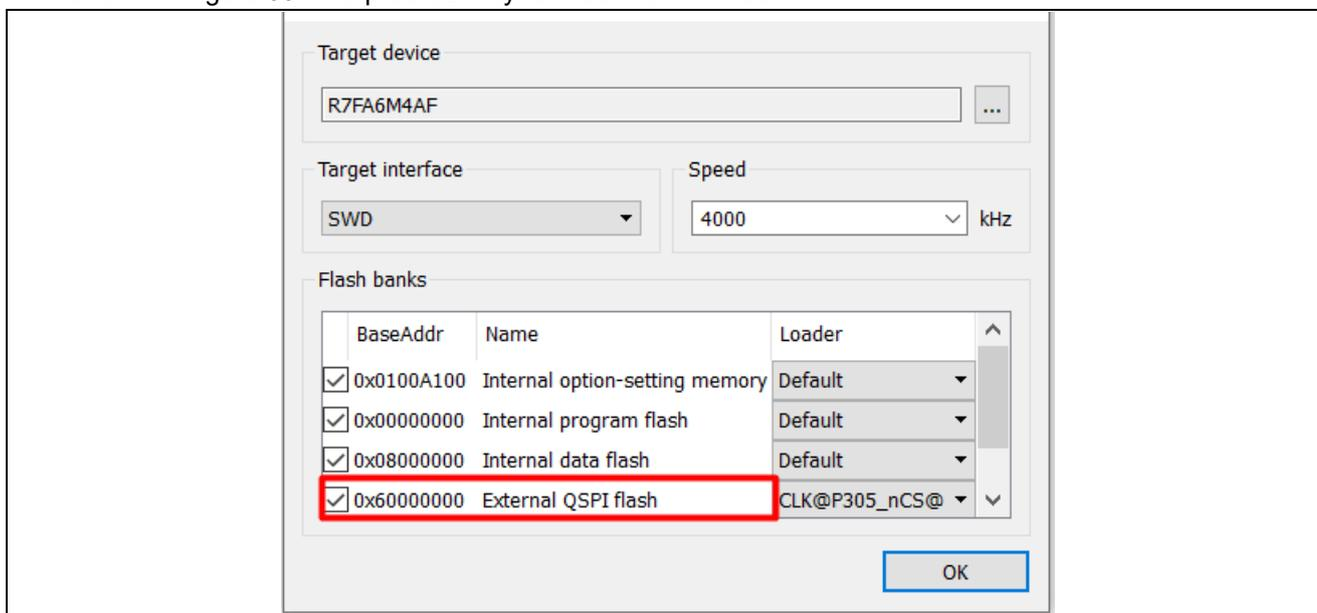

Figure 55. Erase the external flash chip
- Follow **step 2, 3** in **section 3.3.1** to erase the chip. Users can also erase the external flash chip, as shown in Figure 55. The process may take several minutes.